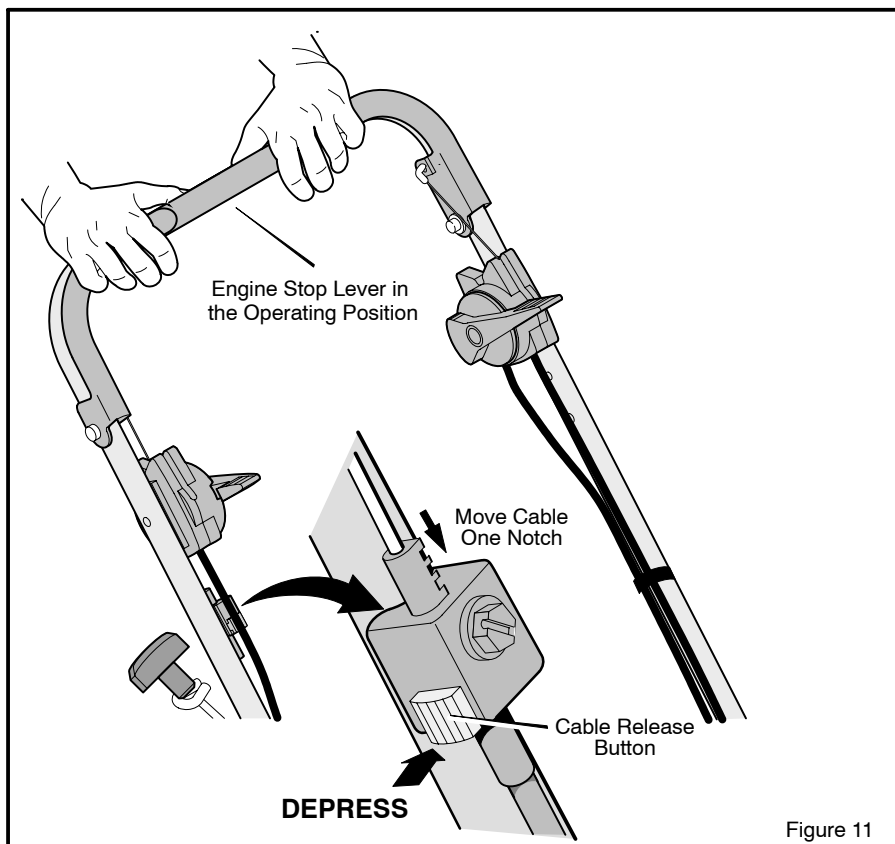

Figure 11
3. Depress the **cable release button**. Move the **cable** down one notch as shown in Figure 11.